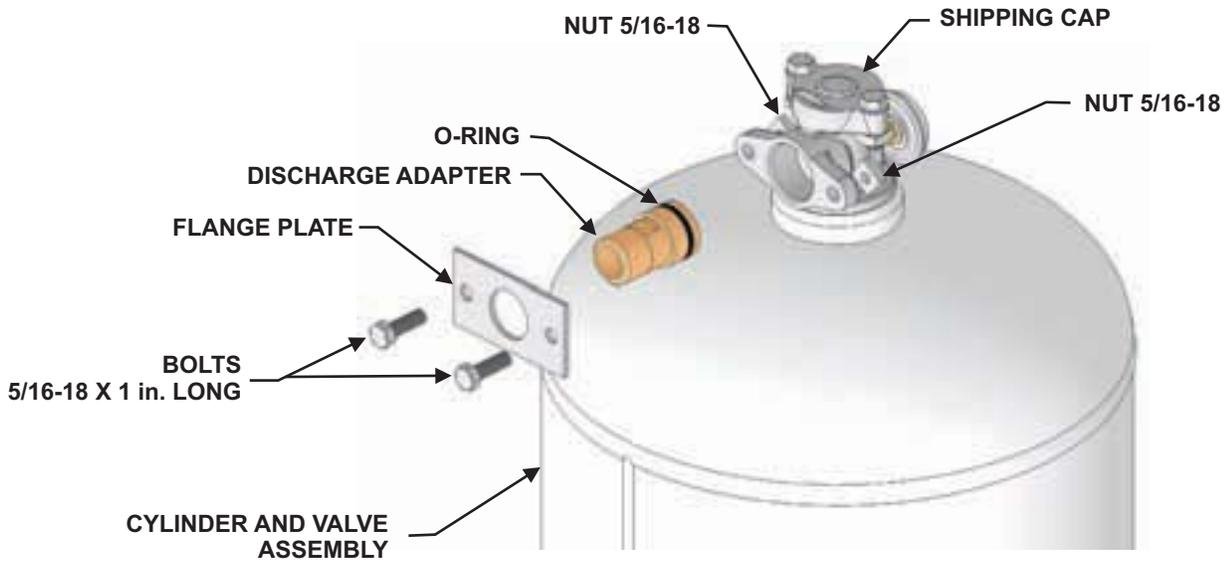

Figure 4-5. Installing the Discharge Adapter Kit, P/N 83-844908-000
3. Insert the Discharge Adapter through the hole in the flange plate (see Figure 4-5).